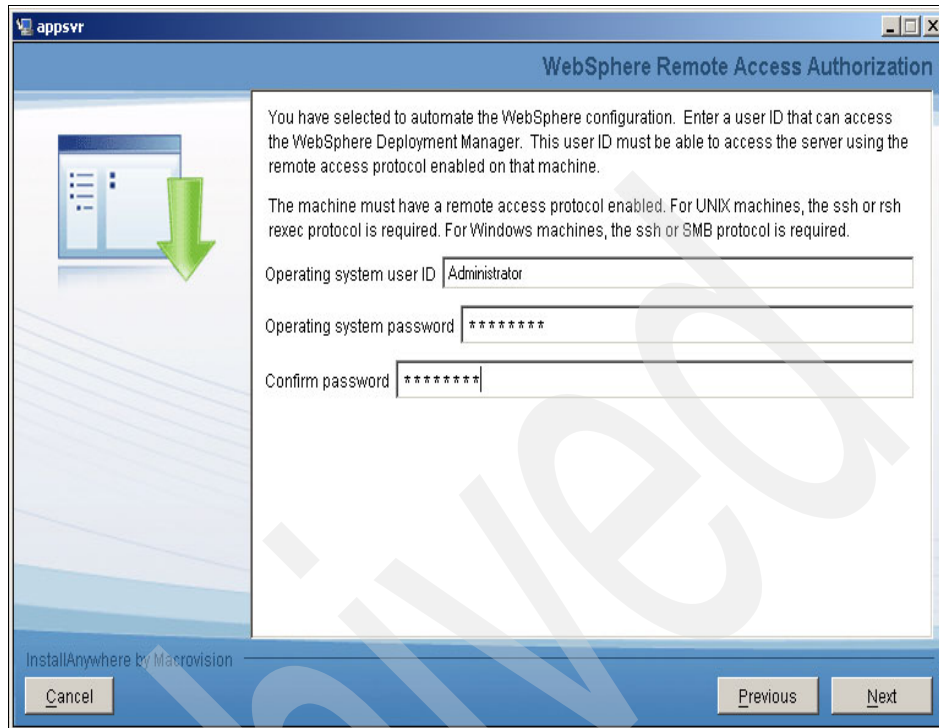

Figure 5-15 WebSphere Remote Access Authorization
10. From the Remote Access Authorization panel (see Figure 5-15 on page 88), enter authorization information for the WebSphere Application Server configuration, and then click **Next**.